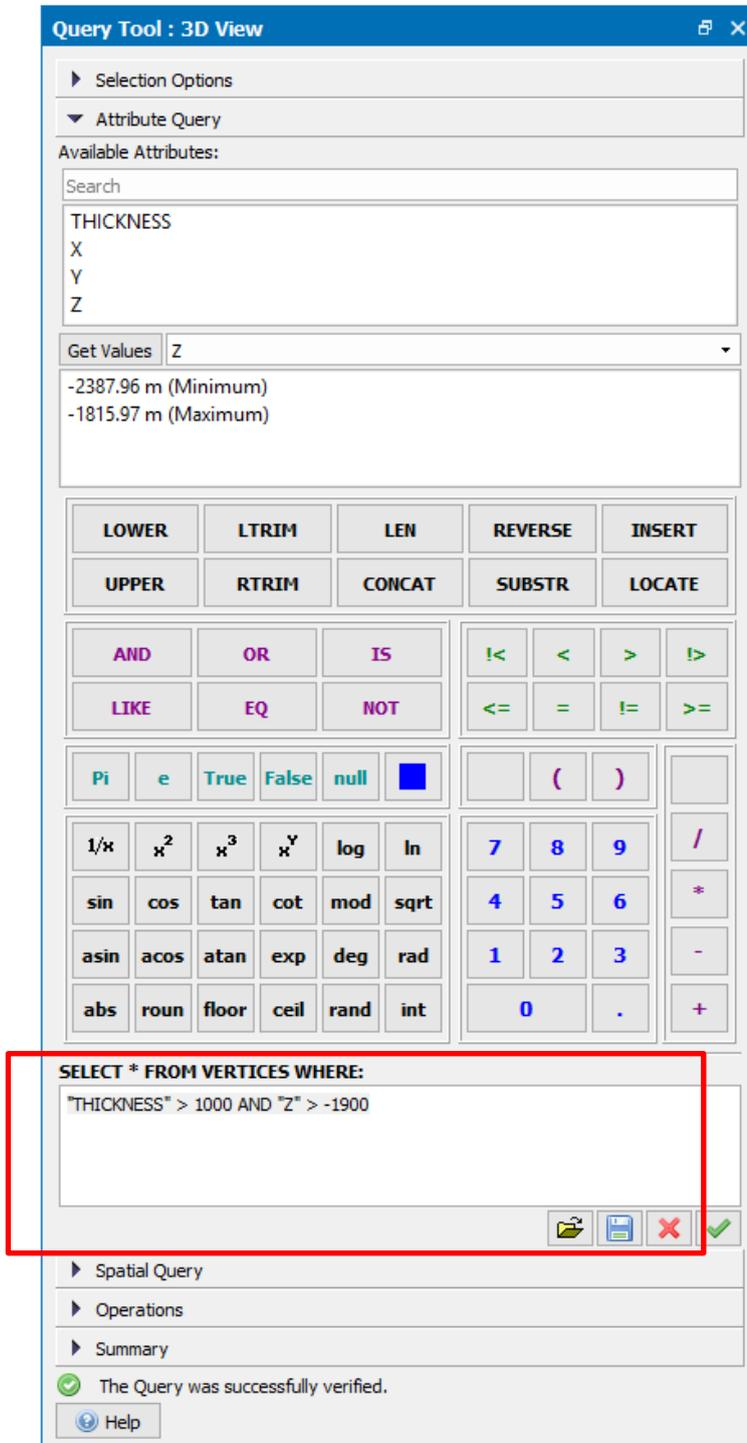

Figure 9. Setting up the Attribute Query on Triassic HW to select vertices where the unit thickness is >1000 m and the elevation is > -1900 m.
6. Using the calculator buttons in the tool or typing directly from your keyboard, enter the expression **"THICKNESS" > 1000 AND "Z" > -1900** in the **SELECT \* FROM VERTICES WHERE** box. This is highlighted in Figure 9 by a red rectangle. Then click the green tick to apply the query.